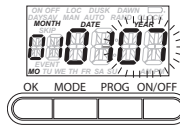

Fig. 3
4. Turn the knob to set the desired year and press **OK**. (Fig. 3)
12. Turn the knob to change the flashing **01** to the required new week (**01-02-03-04-L**) for the autumn adjustment, then press **OK**. **LOC** shows at top of display. (Fig. 3)